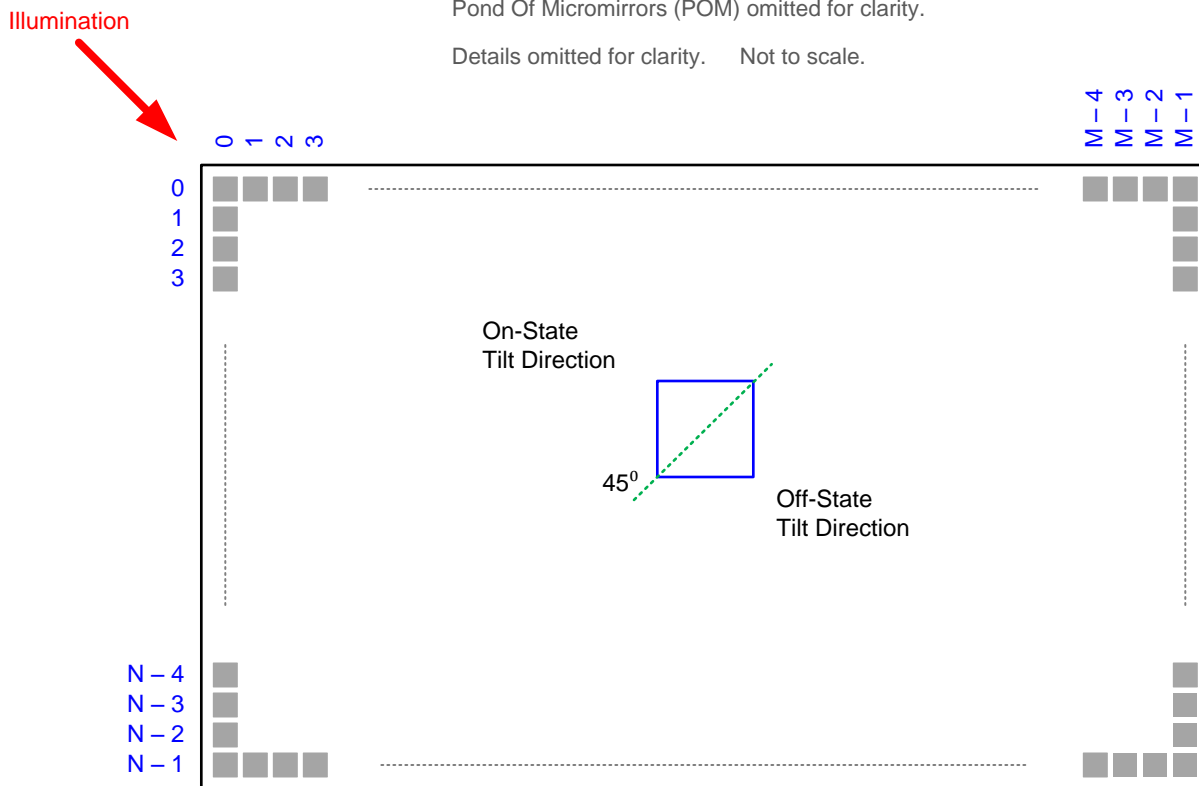

Figure 9. Micromirror Landed Orientation and Tilt
- (1) Measured relative to the plane formed by the overall micromirror array.
- (2) Variation can occur between any two individual micromirrors located on the same device or located on different devices.
- (3) Additional variation exists between the micromirror array and the package datums. See package drawing.
- (4) See Figure 9.